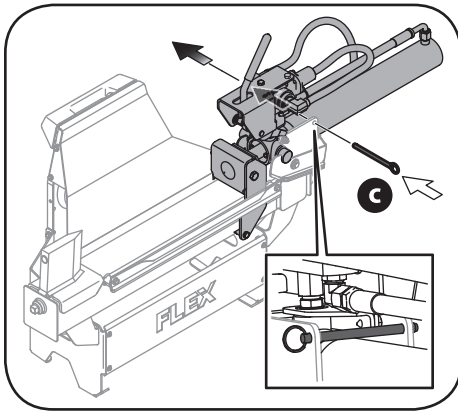

Figure 3-8
11. Reinstall the locking pin (c). See Figure 3-8.